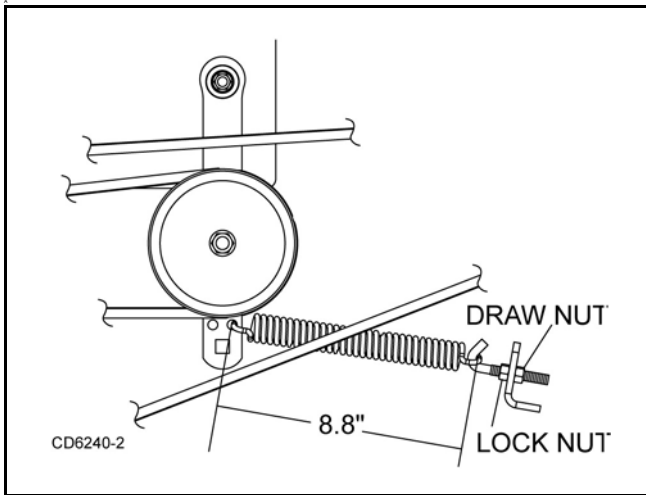

Figure 10. Belt Adjustment
Belt Adjustment (Figure 10)
2. Tighten draw nut until spring has stretched approximately 8.8" as shown in Figure 10. Tighten lock nut.